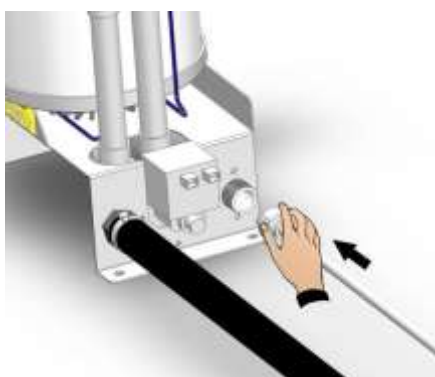

Fig. 21
4. Connect the water charge line to GAS $\frac{3}{4}$ coupling of the electrovalve (fig. 21 and 22).